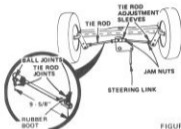

FIGURE 23
- Move Rubber Boots to expose Ball Joints on Tie Rods and Steering Link (Fig. 23).
- Loosen Jam Nuts (Fig. 23) at each end of Tie Rod Adjustment Sleeves.
- Adjust both Tie Rods so that Tie Rod Joints measure $9 - 5/8"$ from center to center (Fig. 23).